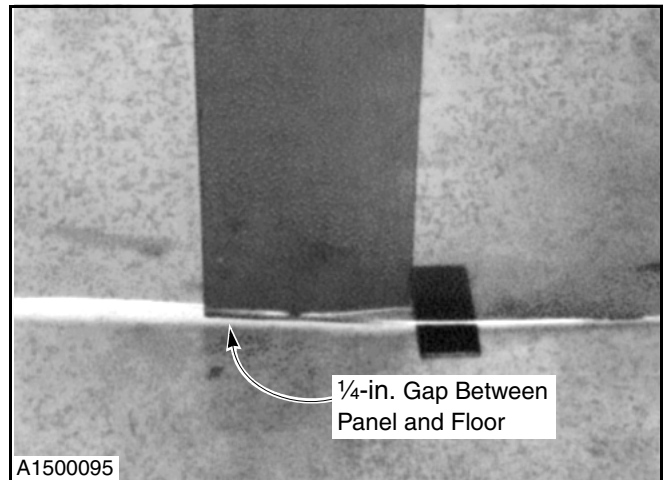

Figure 53
2. Using a sharp utility knife, trim the bottom edge of the Puralon panel to within ¼ in. of the floor. To make it easier to move your knife through the material, pull the excess material away from the blade as you make the cut. (See Figure 53.)